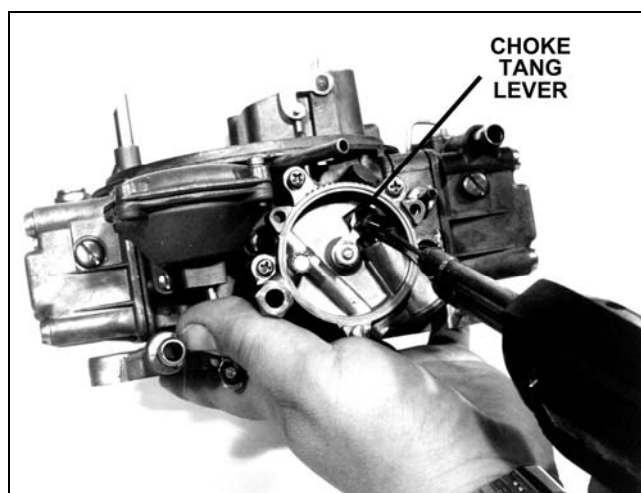

Figure 3
4. Using a soldering gun, heat the choke tang lever, until the shrink tubing is drawn tight against the tang (See Fig. 3). NOTE: For those choke units that contain a double tang, an additional piece of heat shrink tubing of a larger diameter is supplied. Use the correct tubing size for each tang.